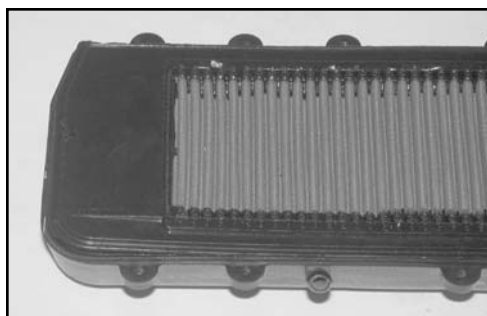

Fig. 3
5. Install the K&N Filtercharger® onto the stock air filter cage. (Fig. 3)